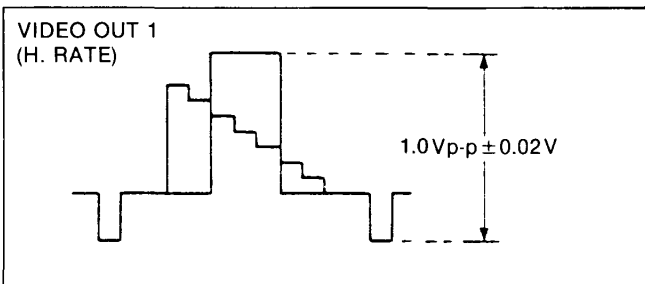

Figure E25
3. Adjust VR3004 for 1.0 ± 0.02Vp-p as shown in Figure E25.